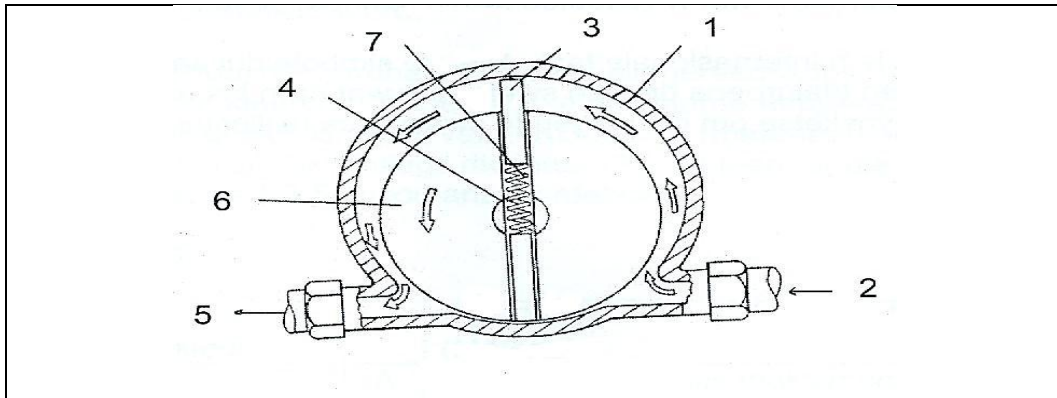

FIGURE 1.18
- D Decrease the thickness of the oil in the pump system. (1)
- 1.18 Which of the following descriptions represents the pump as shown in FIGURE 1.18?